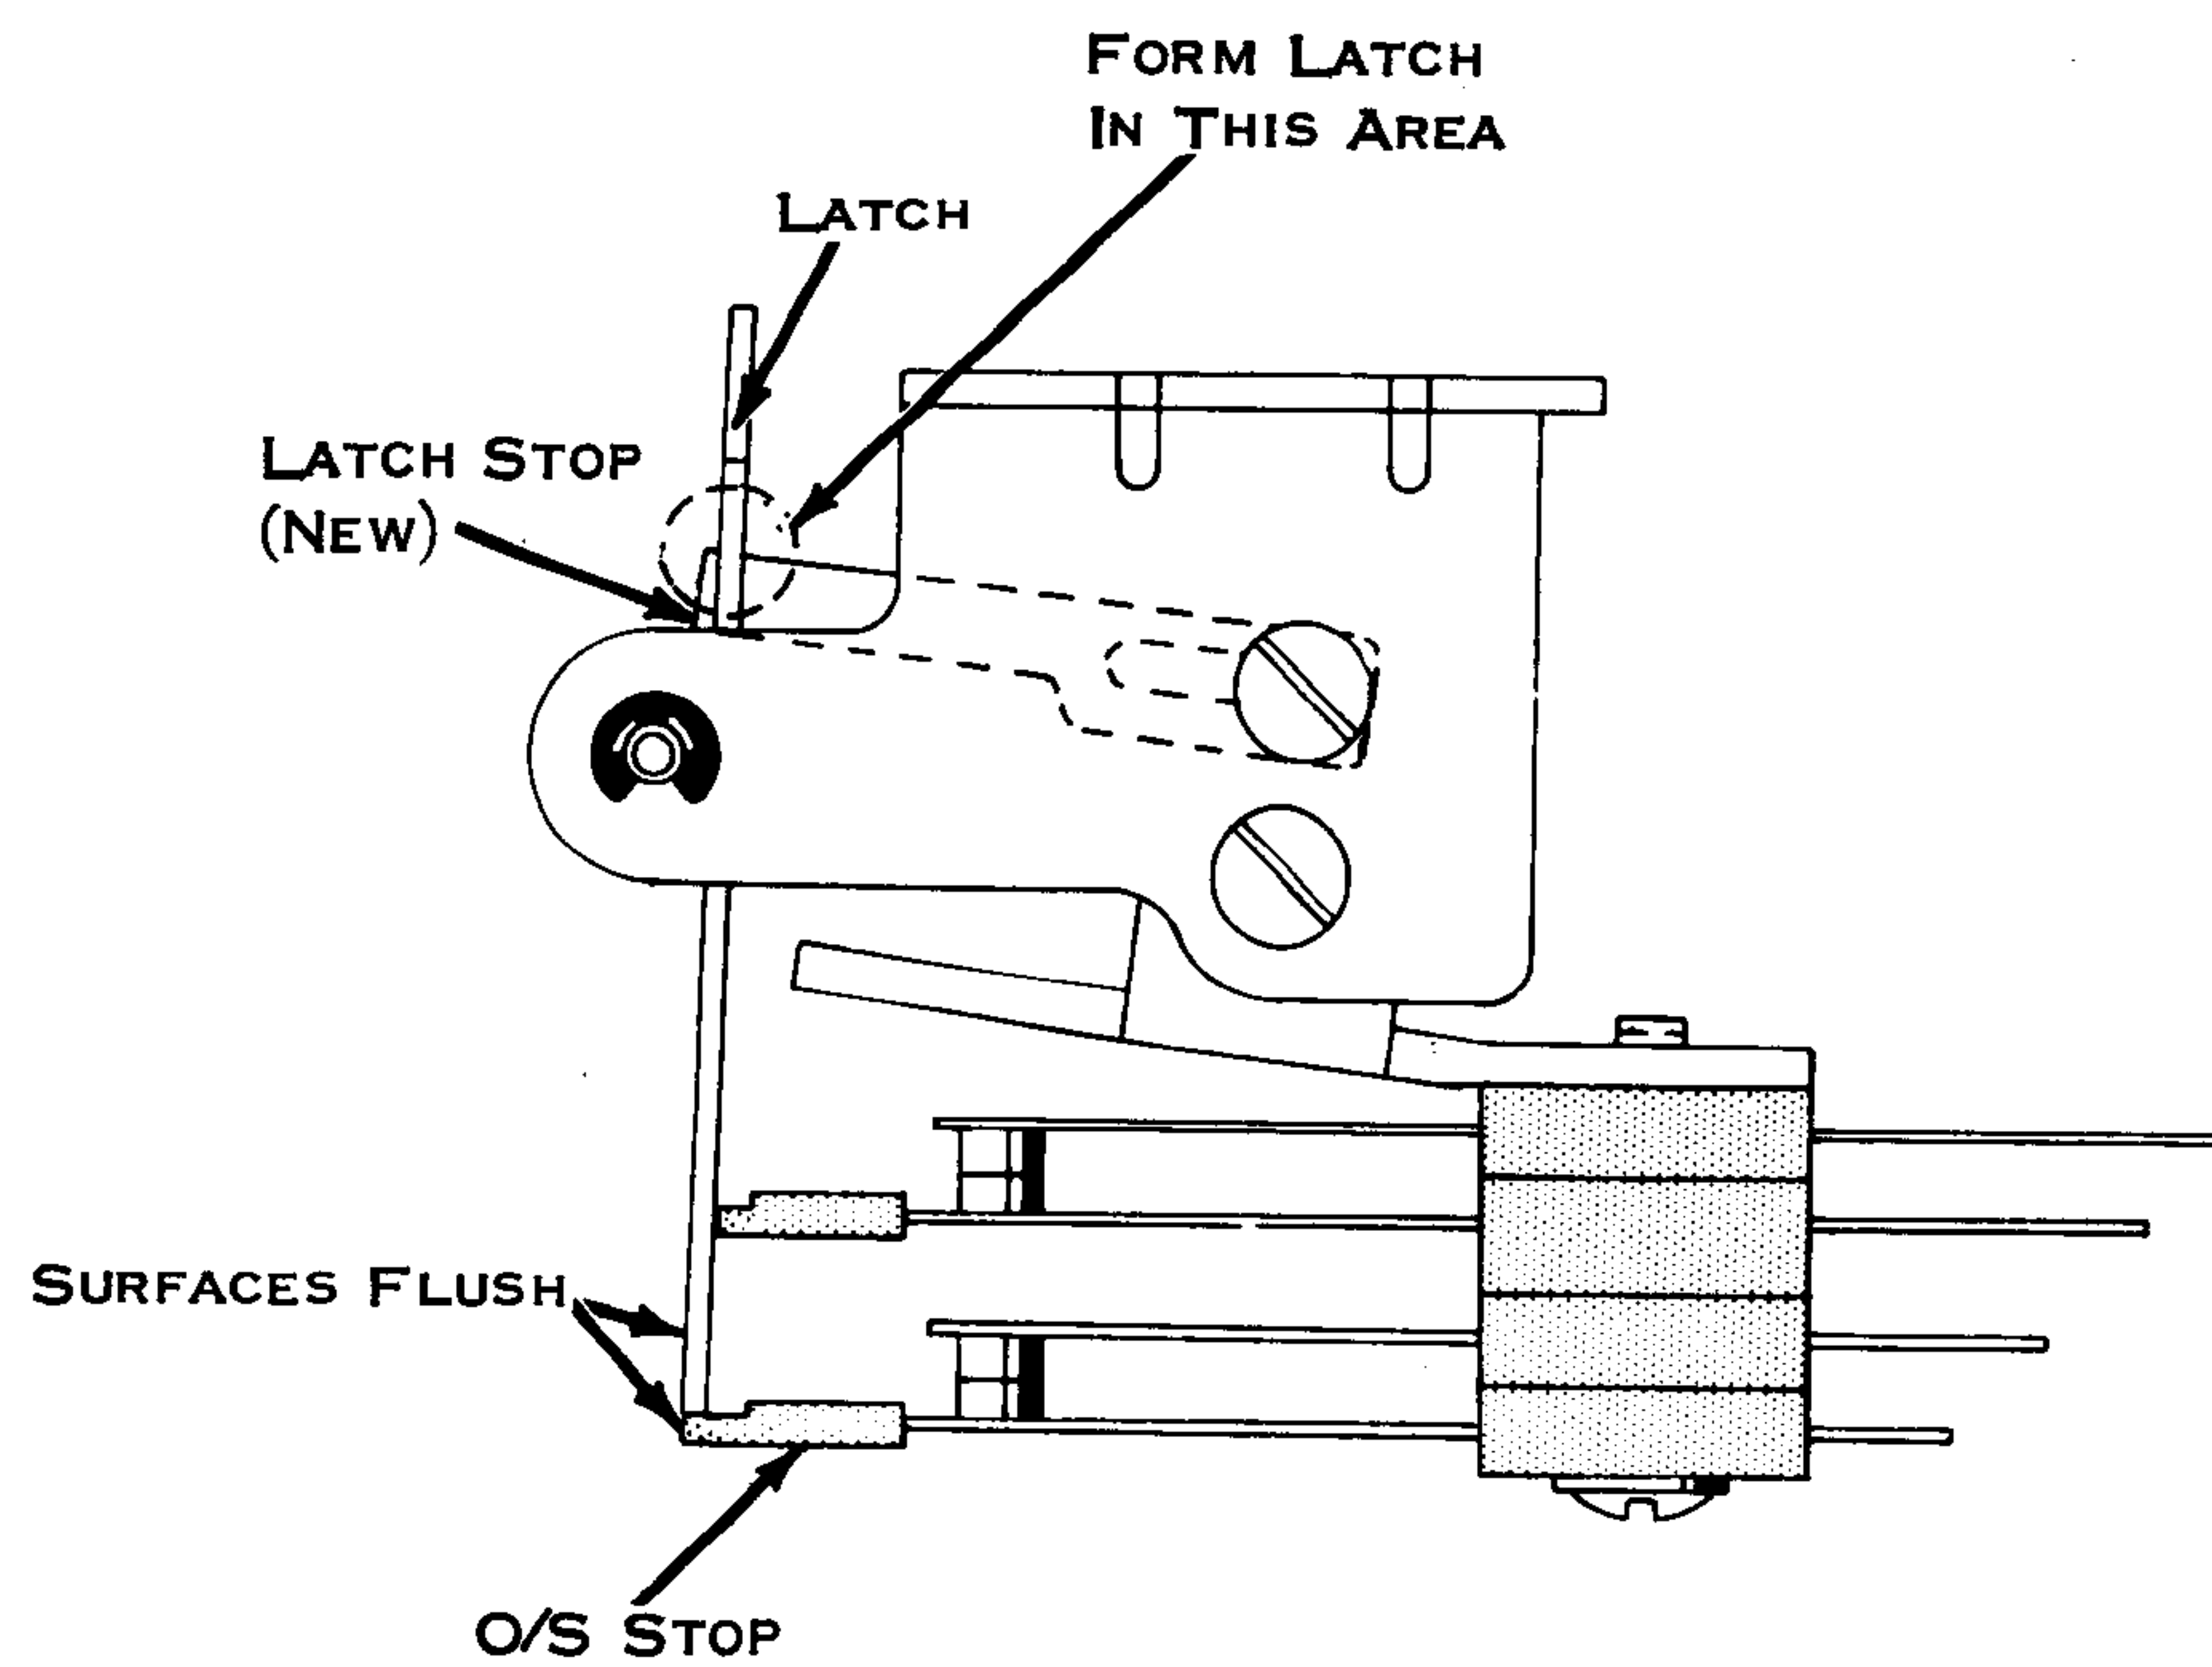

Figure 137. Latch Stop
4. Latch Stop (Present On New Models) Fig. 137 - Position so that the end of the O/S stops are flush with the forward latch surface.
NOTE: Form individual latches as required in the area shown in Fig. 137.